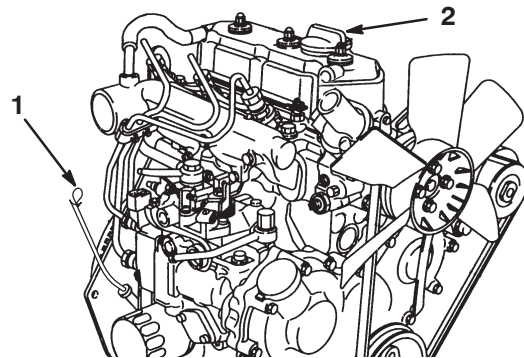

Figure 24
2. Remove the dipstick and wipe it with a clean rag (Fig. 24). Push the dipstick into the tube and make sure it is seated fully. Remove the dipstick from the tube and check the level of oil. If the oil level is low, remove the filler cap from the valve cover and **slowly** add enough oil to raise the level to the Full mark on the dipstick. Add the oil slowly and check the level often during this process. **Do not overfill.**